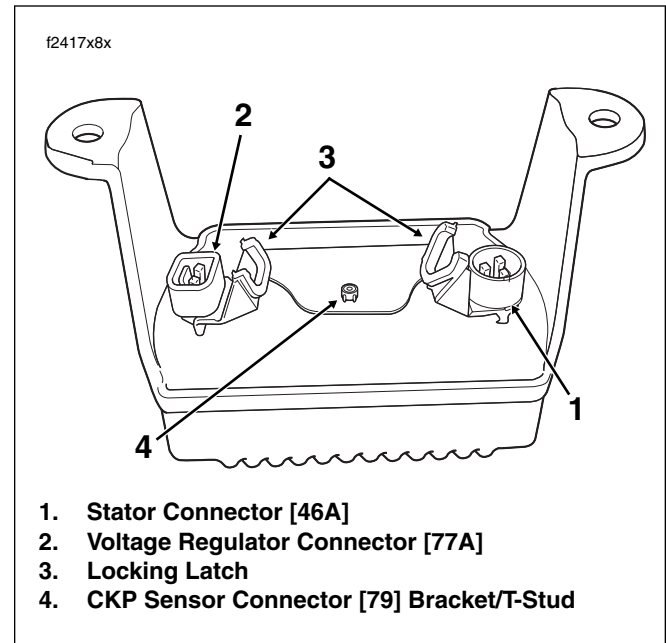

Figure 8-16. Voltage Regulator (Bottom View)
4. Release conduit and convoluted tubing from P-clips under left and right side legs of voltage regulator. Allow voltage regulator to hang upside down at front of lower frame crossmember. See Figure 8-16.
1. Position voltage regulator upside down at front of lower frame crossmember. See Figure 8-16.